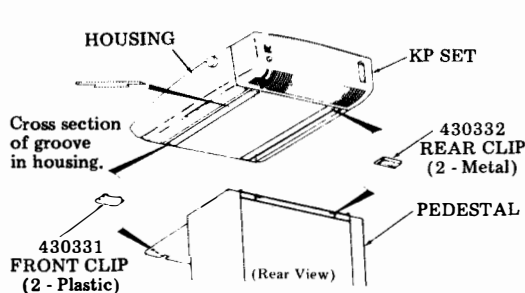

Fig. 3
3.08 Fasten the KP set to the pedestal using the four clips provided. Place KP set on top of pedestal, lining up grooves on bottom of housing with slots in pedestal and tray. Push in each slip until fully seated. See Fig. 3.